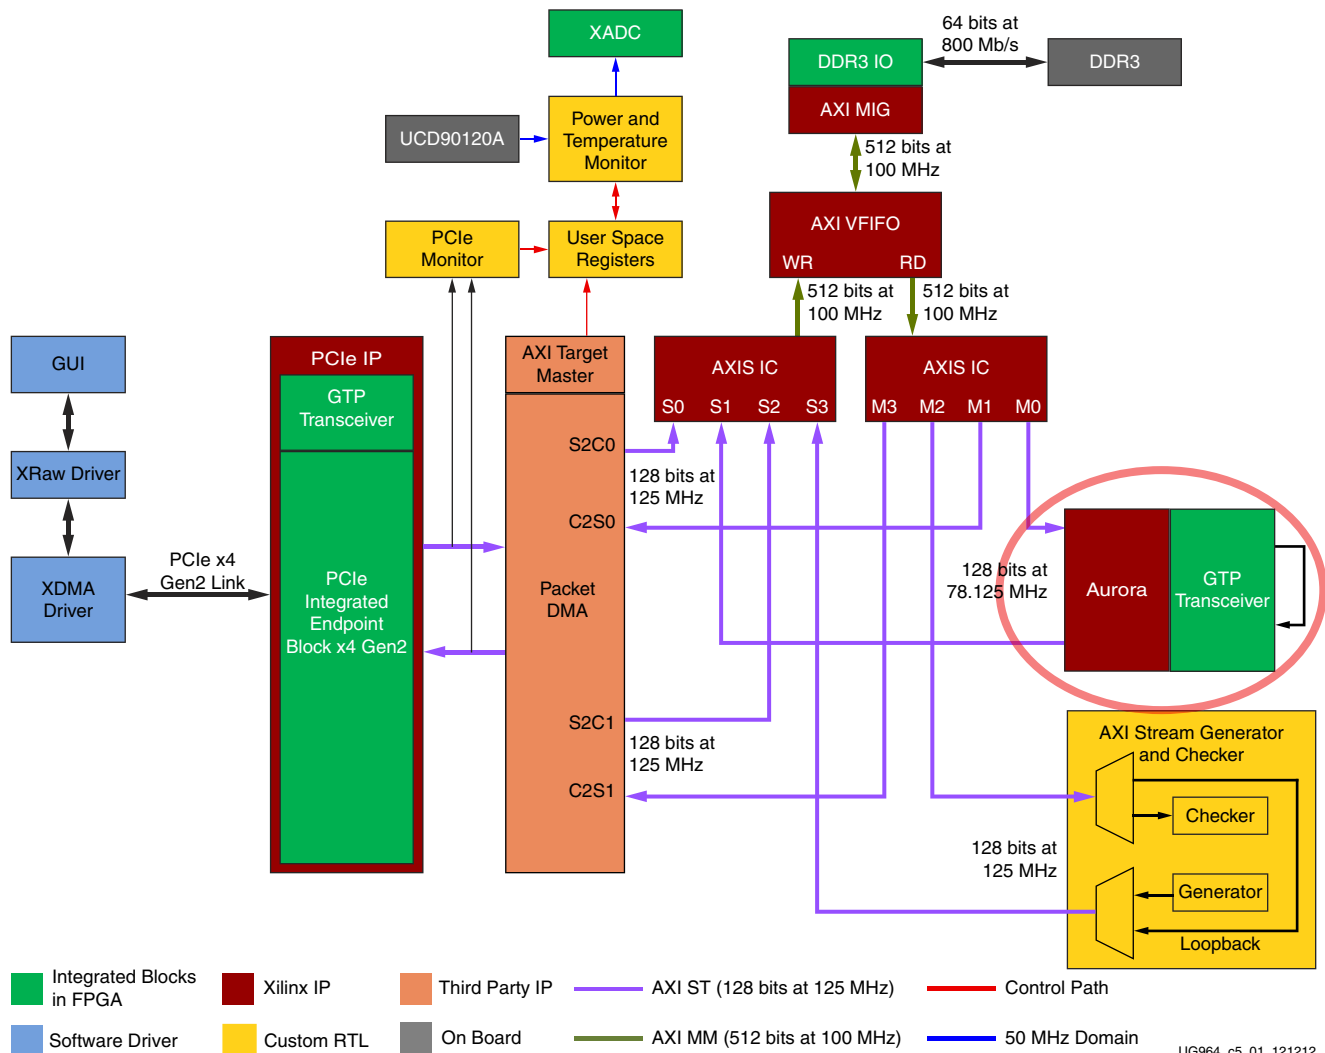

Figure 5-1: Integrating Aurora
2. Remove the AXI Stream Gen/Chk instance and insert the Aurora LogiCORE IP into the framework as shown in Figure 5-1.